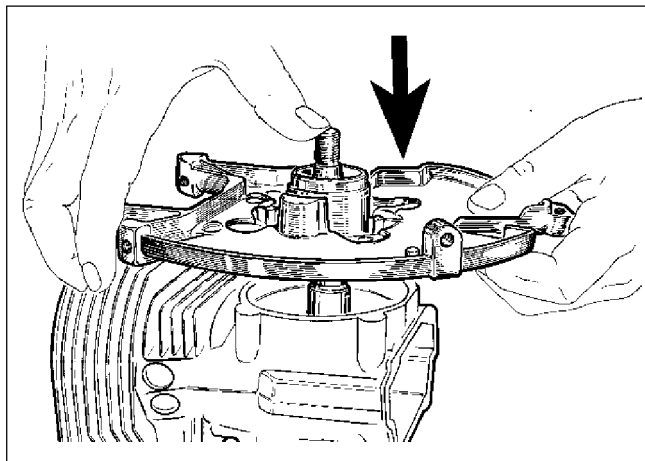

Fig. 22
- Press bearing and base assy on to crank (Fig 22)